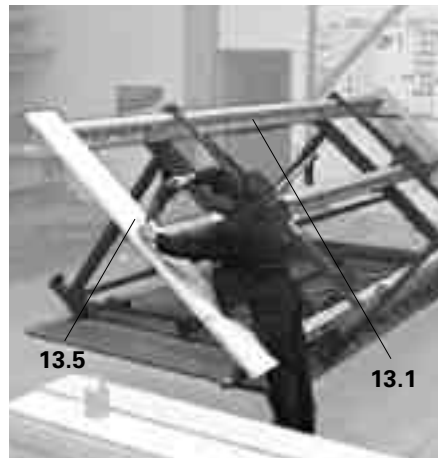

Fig. A1.23
2. At platform ends, fix each plank flush to the girders (13.1). (Fig. A1.23)